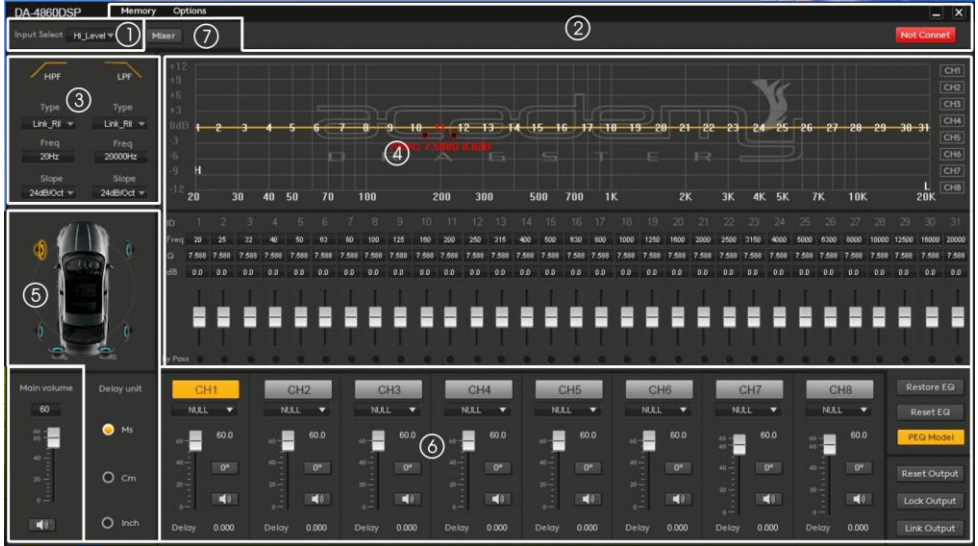

Figure 3.2.2
- 1 . as shown in figure 3.2.2, "1", input signal selection: high level, Phone, AUX and Player.
- 2 . as shown in figure 3.2.2 "2", shows the main menu and connection status.
- 3 . as shown in figure 3.2.2 "3", the high-pass and low-pass Settings of the divider.
- 4 . as shown in figure 3.2.2, "4", area is output channel EQ setting.
- 5 . as shown in figure 3.2.2, "5", shows the setting of delay space.
- 6 . As shown in figure 3.2.2,"6", output channel configuration and common parameter adjustment area.
- 7 . as shown in figure 3.2.2, "7", shows the setting of Mixer space.
In the online mode, in Figure 3.2.2 "1", click the appropriate input source, you can switch the audio input signal.
"6" area, click on the corresponding channel number in Figure 3.2.2 (CH1, CH2 CH8), you can switch to the corresponding channel to adjust relevant parameters when changing the channel editing, where there are only 3.2. 2 "4" zone (crossover and equalization parameters) will vary depending on the channel and change the parameter values.
Mixer settings: click "mixer" in the "7" area in Figure 3.2.2, then you can switch to (Figure 3.3.14) the relevant parameter settings for the corresponding adjustment